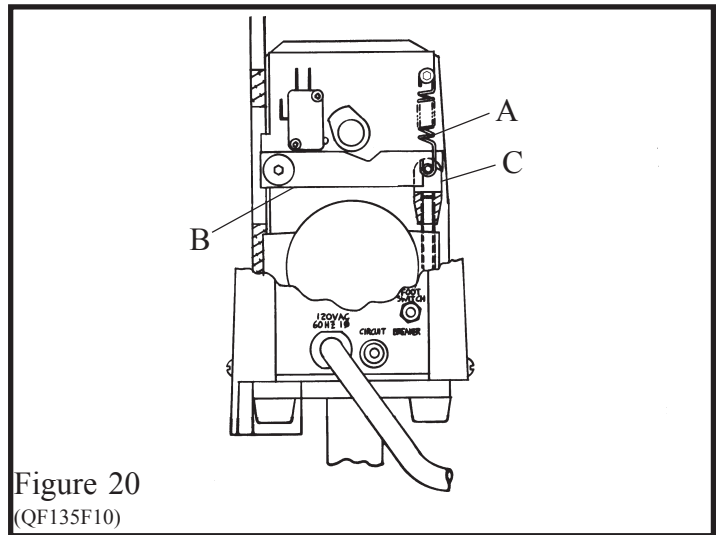

Figure 20
D. To Adjust Clincher Points Height (Figure 20)